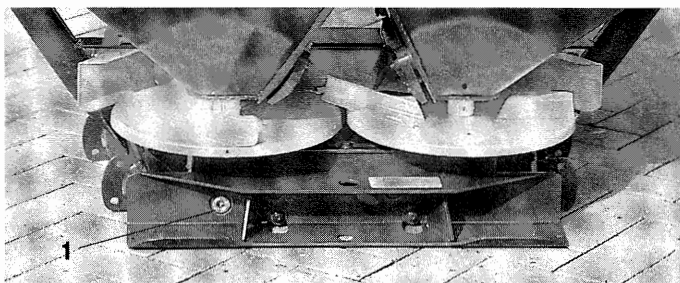

Fig. 9.3
5. Under normal operation conditions the gearbox is maintenance-free. **The oil level has to be visible in the "sight gauge" (Fig. 9.3/1).** A refilling of oil normally is not necessary. External symptoms, e. g. fresh oil spots on the parking place or on machine parts and/or loud noise development, however, indicate an oil leakage at the gearbox housing. Search for reason, care for remedy and fill with oil.